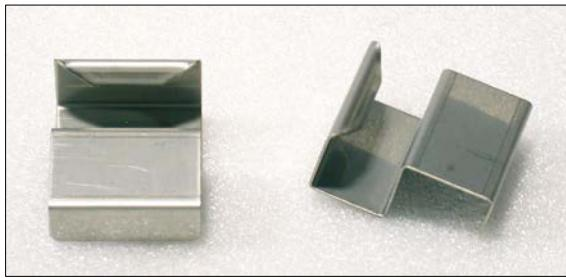

Figure 8, Drain Tray support brackets
1. Find the Drain Tray support brackets (Figure 8)